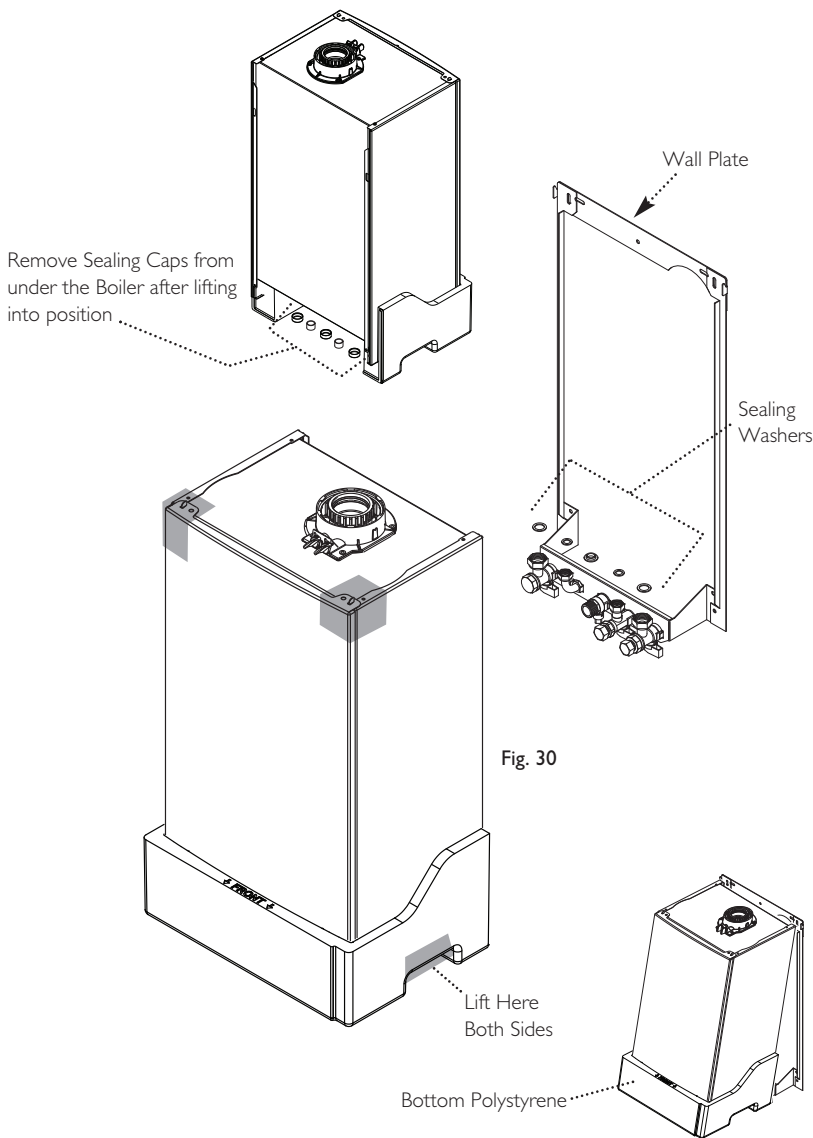

Fig. 30
9.4 Fitting The Boiler (Fig. 30)